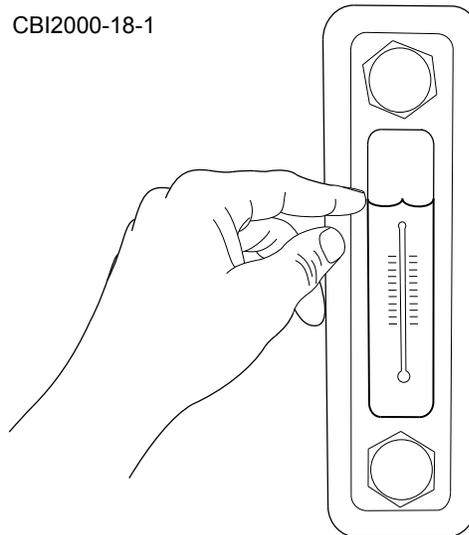

Figure 6.23 - Check Hydraulic Oil Level Site Gauge
3. Inspect Oil Level - Inspect the hydraulic oil level at the site gauge on the tank. The hydraulic oil should be visible $\frac{3}{4}$ of the way to the top of the sight glass (Figure 6.23).